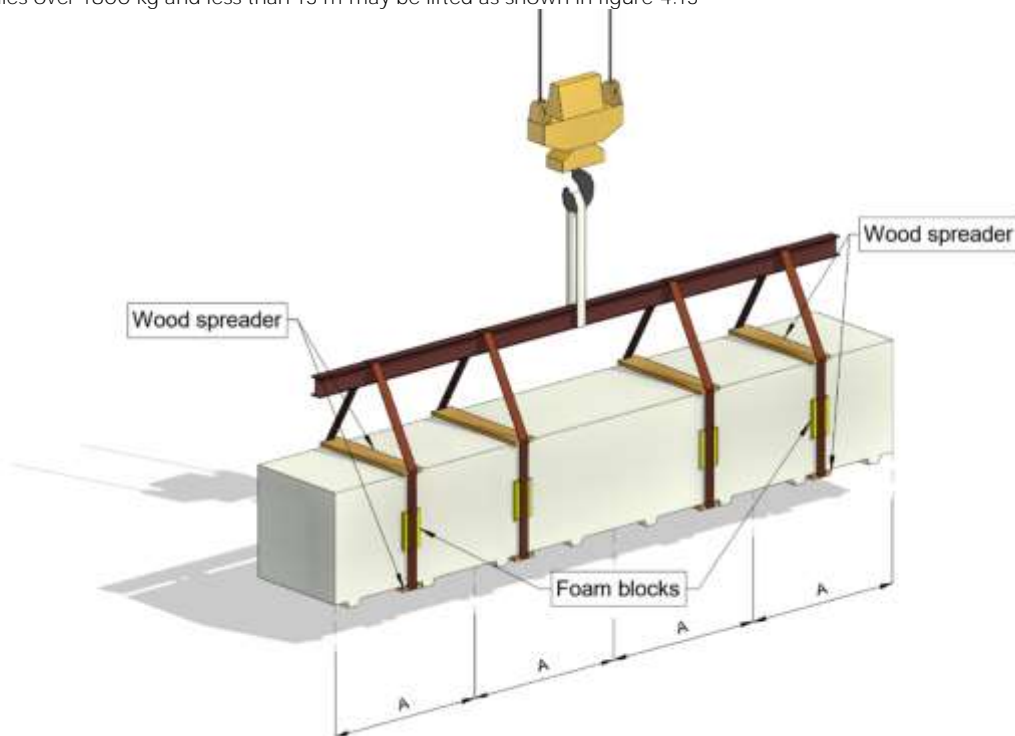

Fig. 4.13
4.13 Bundles over 1800 kg and less than 13 m may be lifted as shown in figure 4.13